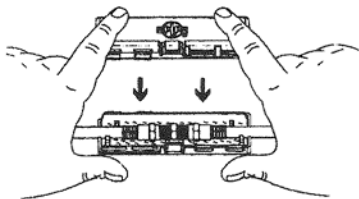

FIGURE 2 - SNAP TOGETHER CLOSURE
2.03 Take top half of closure and line up with bottom half to mate snaps with holes. Press until top half clicks into place. (Figure 2)